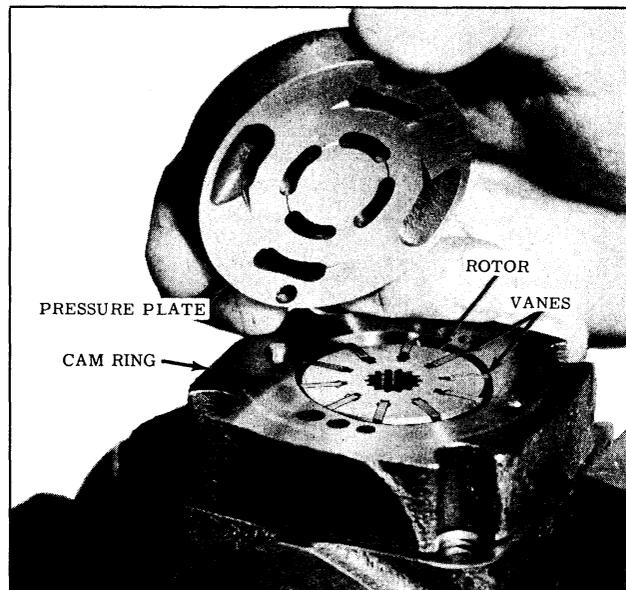

Fig. 5-74 Pressure Plate Removal
6. Lift the pressure plate from the cam ring, then remove the "O" ring. (See Fig. 5-74)